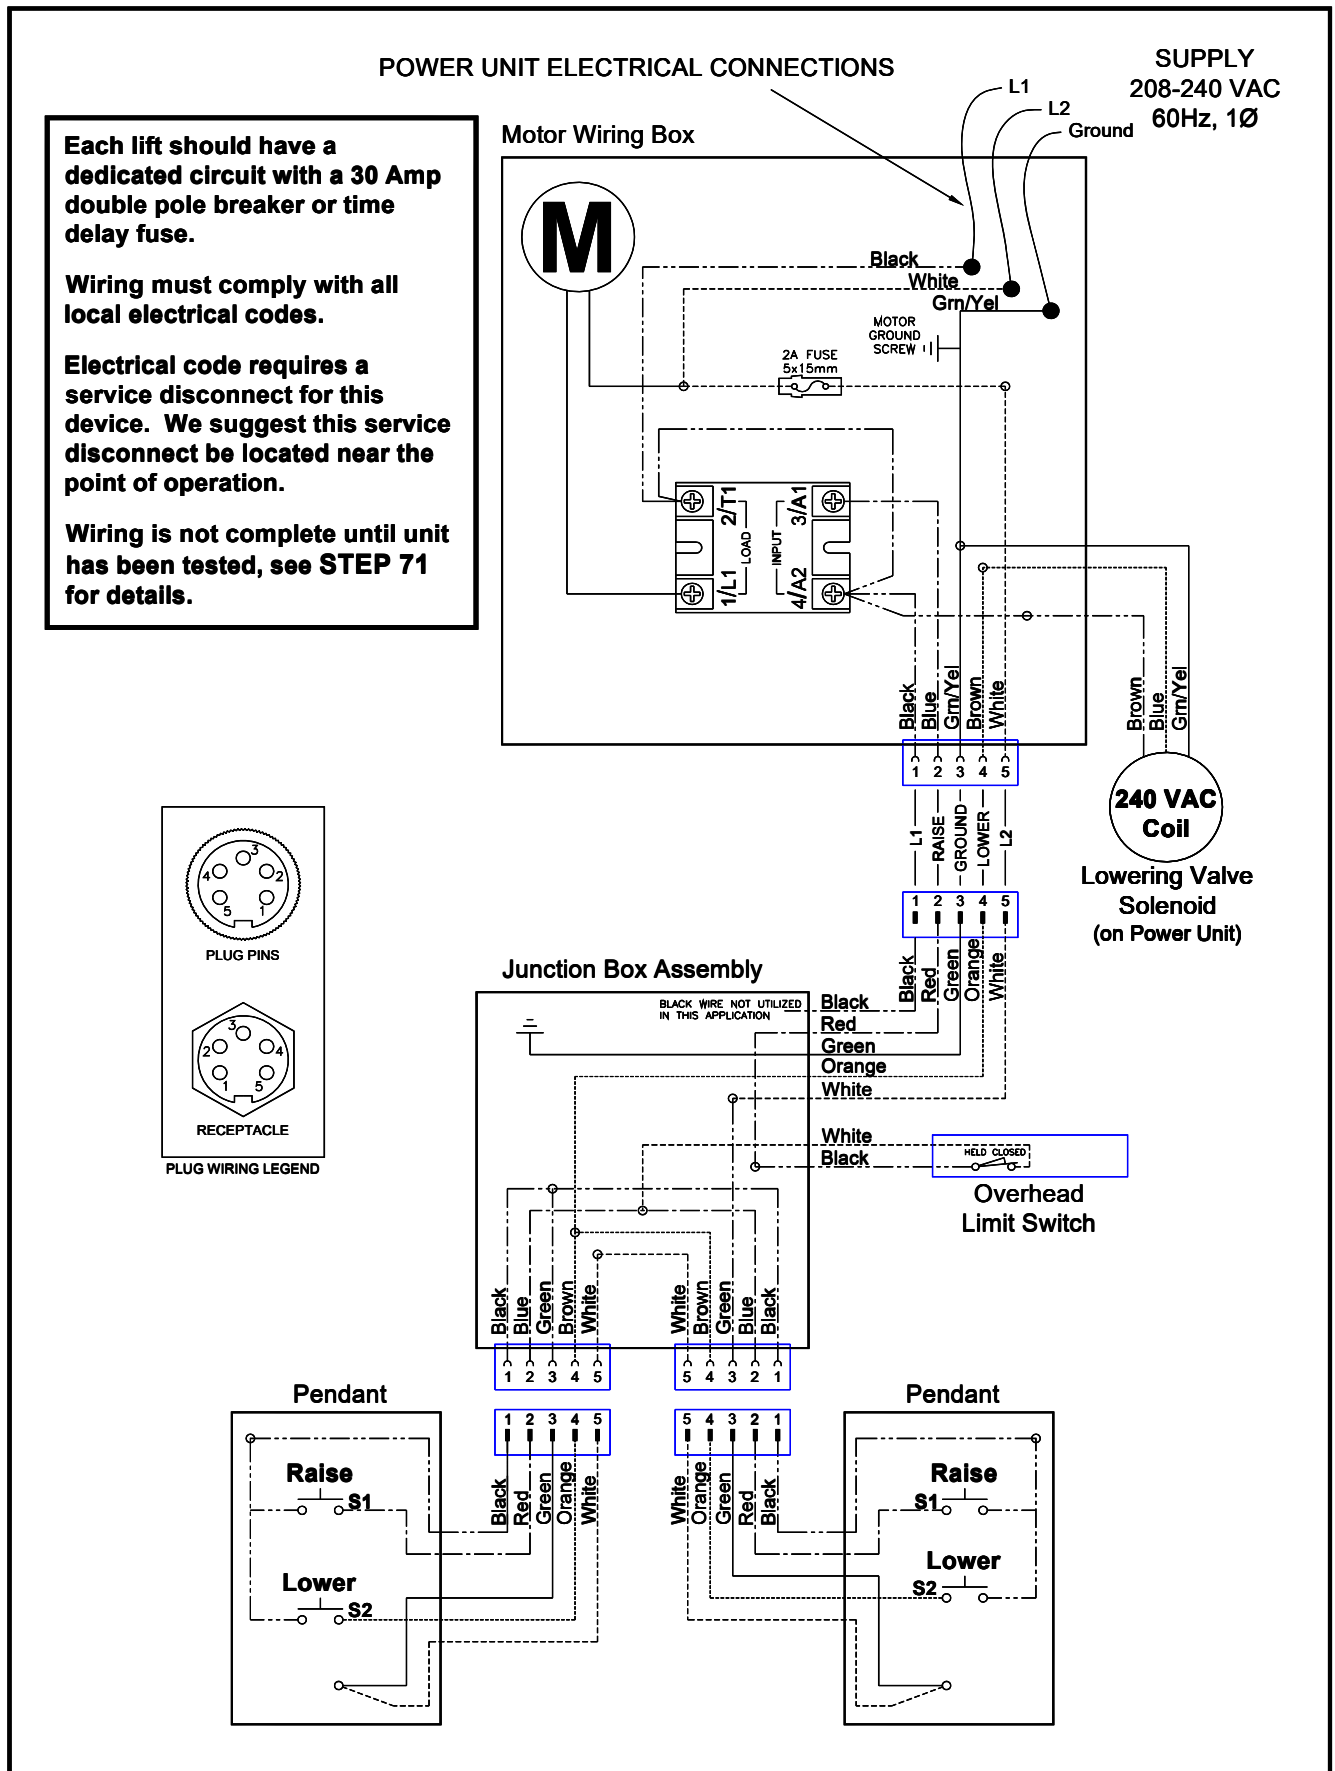

Fig. 29 – Electrical Wiring Diagram
71) Connect Power Unit to suitable electrical source as shown in **Fig. 29**.